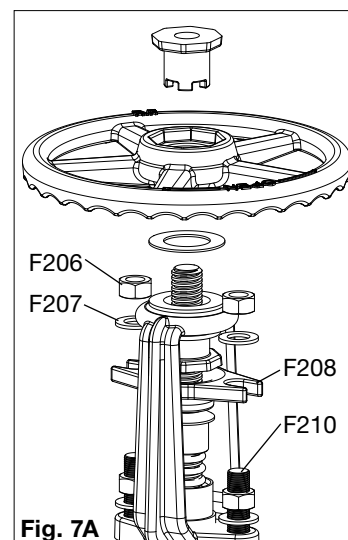

Fig. 7A
#### 5.2.2 Stem seal O-ring replacement (figs. 7A & 7B)
1. Remove the two upper gland follower/yoke nuts (F206) and associated washers (F207). Lift the gland follower (F208) up off of the stud bolts (F210) (see fig. 7A).